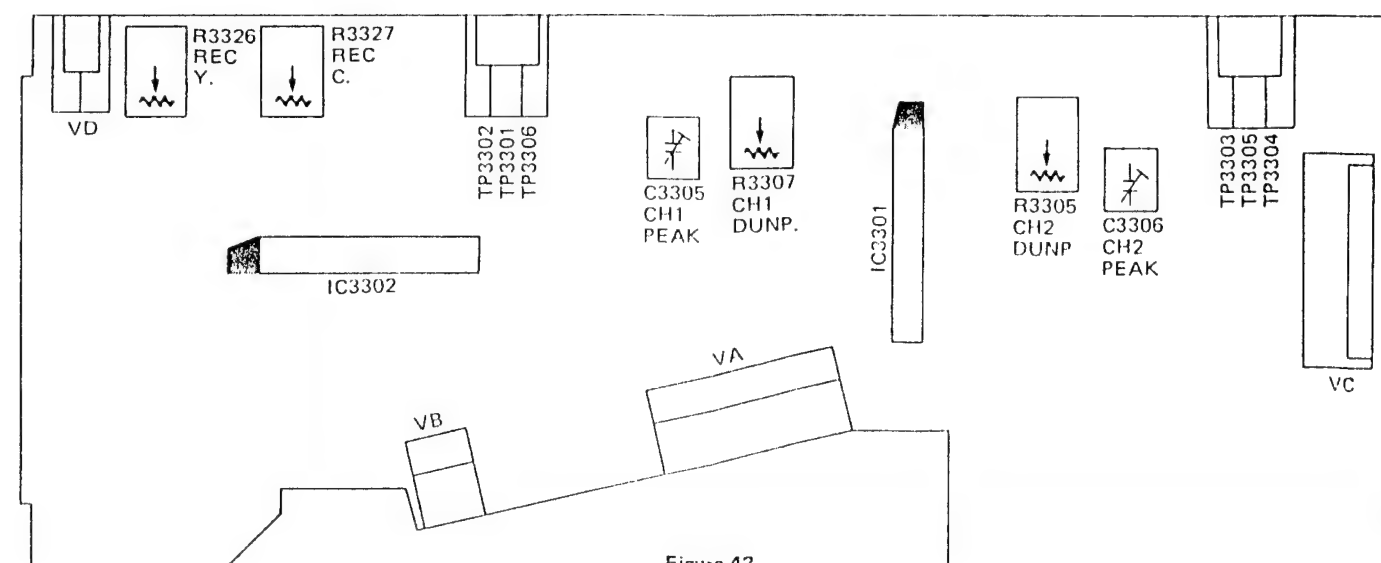

Figure 42.
Deck — (2): DUNTK 1456HE50 (Fig.42)